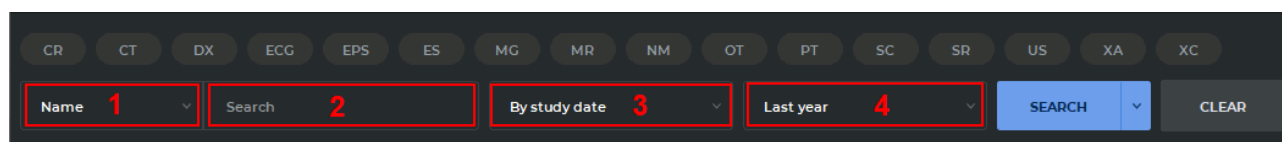

Figure 1.13: Search panel
The search panel is shown in Fig. 1.13.
A search query is executed in the text field (see «2» in Fig. 1.13). From the drop-down list («1» in Fig. 1.13), select one of the following search parameters:
The search panel also provides for search by date of birth, search by the date of study performance or study import. Select one of the following options from the drop-down list (see «3» in Fig. 1.13):
- **by date of birth**. In the search period drop-down list (see «4» in Fig. 1.13) only the *Exact date* option is available.
You can perform search by the exact date, by the time interval specified or by the period selected from the drop-down list. Choose a period from the drop-down list (see «4» in Fig. 1.13):